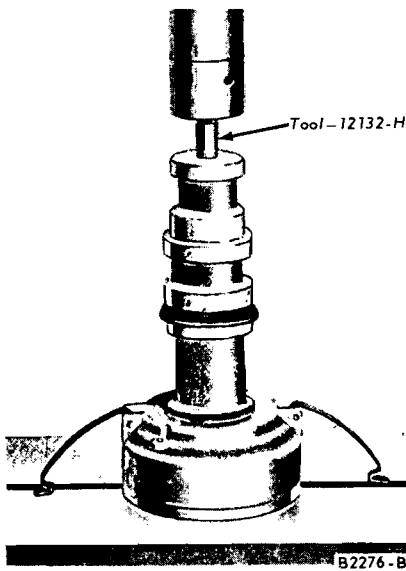

FIG. 9—Upper Bushing Removal
14. Remove the distributor shaft upper bushing (Fig. 9).